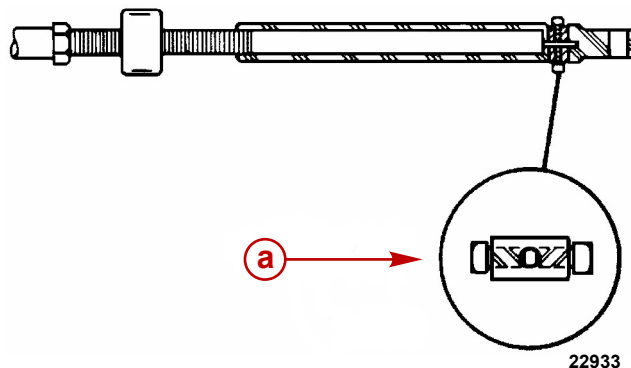

Figure 3. Older cable anchor
2. Larger diameter hole in shift cable anchor. (Figures 3 & 4)